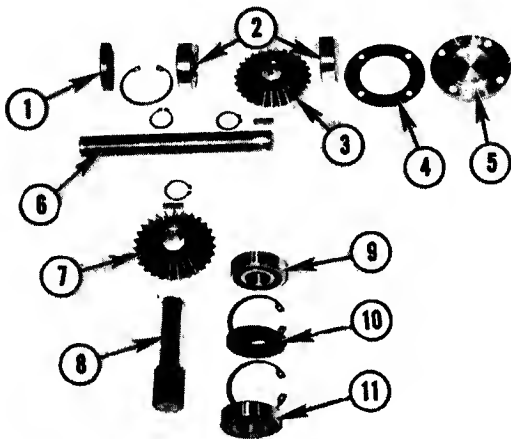

**FIG. 10.8--SHAFT AND BEARING REMOVED**
5. Remove retaining ring from housing and bump shaft and bearing out. Fig. 10.8